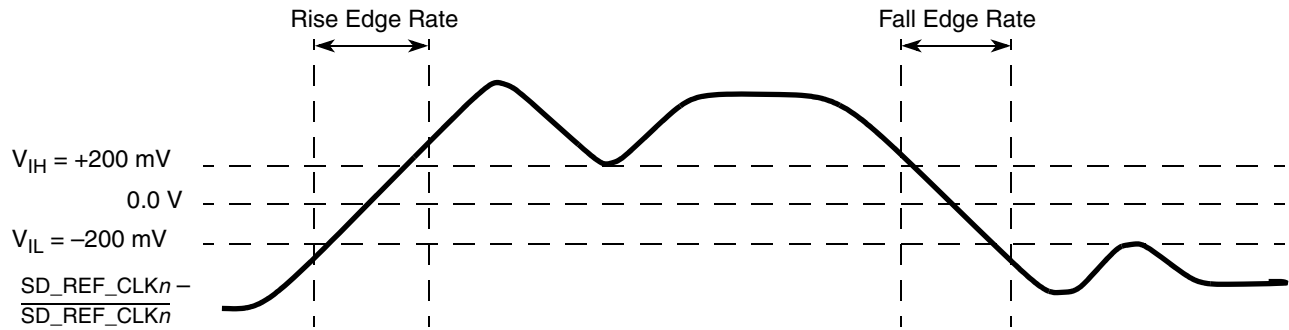

Figure 37. Differential Measurement Points for Rise and Fall Time
only one signal trace curve in a differential waveform. The voltage represented in the differential waveform is not referenced to ground. See Figure 37 as an example for differential waveform.
3. Measured from −200 mV to +200 mV on the differential waveform (derived from SD_REF_CLK $\bar{n}$ minus $\overline{\text{SD_REF_CLK}}_n$). The signal must be monotonic through the measurement region for rise and fall time. The 400 mV measurement window is centered on the differential zero crossing. See Figure 37.